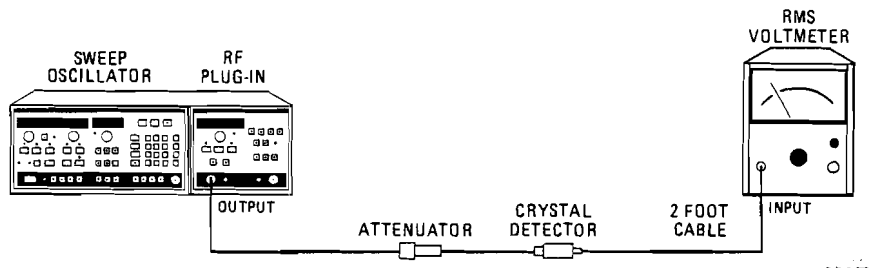

Figure 4-14. Residual AM Test Setup
1. Connect equipment as shown in Figure 4-14 using a 20 dB attenuator.